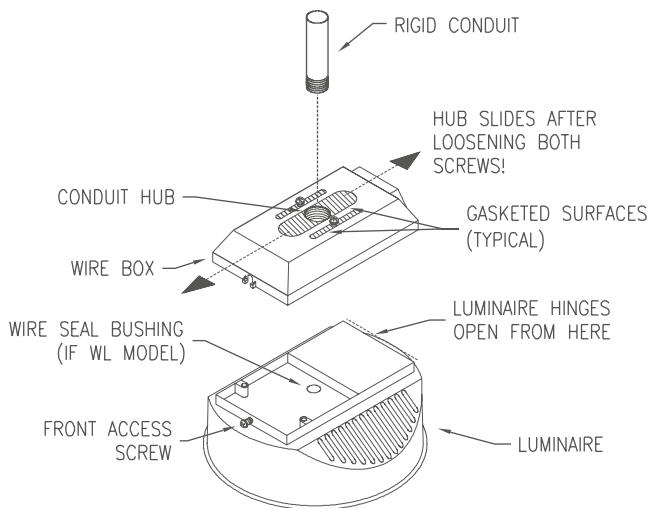

Figure 2
- Thread luminaire onto conduit so luminaire hangs freely. **Note: If application requires Wet Location Listing, use thread sealant on conduit threads before threading luminaire!** See Figure 2.
- Loosen both screws on wire box top, and allow luminaire to slide on conduit hub. See Figure 2. Position luminaire so it is balanced on stem (hanging straight).
- Tighten conduit locking screw located inside wiring box on conduit hub. See Figure 2.